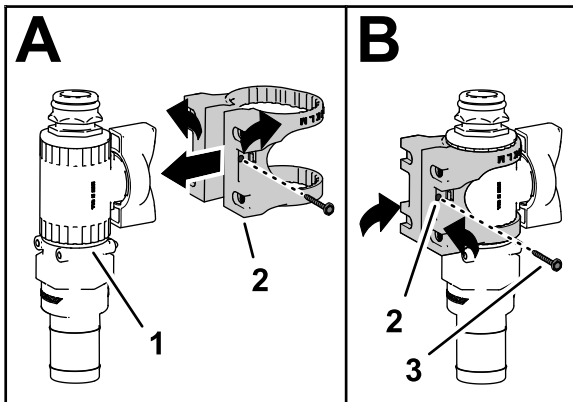

**Figure 36**
5. Assemble the green wing handle to a straight control valve Figure 36.